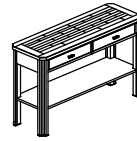

Figure 1
1. Remove the drawer by fully extending it to expose the lever in the track. Release by pushing on lever one up and one down. As shown in Figure 1